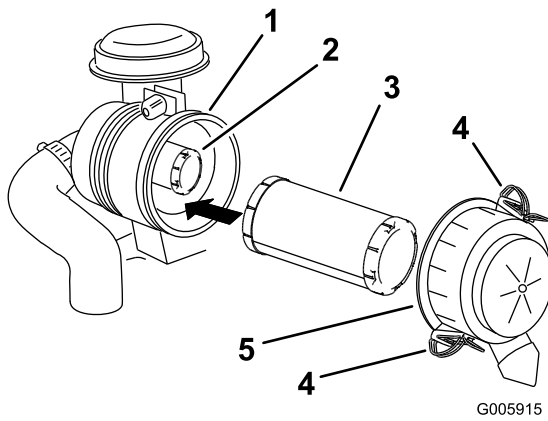

Figure 45
3. Release the latches on the air cleaner and pull the air cleaner cover off the air cleaner body (Figure 45).
5. Gently slide the primary filter out of the air cleaner body (Figure 45).
2. If the inner filter is being replaced, carefully slide it into the filter body (Figure 45).
3. Carefully slide the primary filter over the inner filter (Figure 45).
5. Secure the cover with the latches (Figure 45).